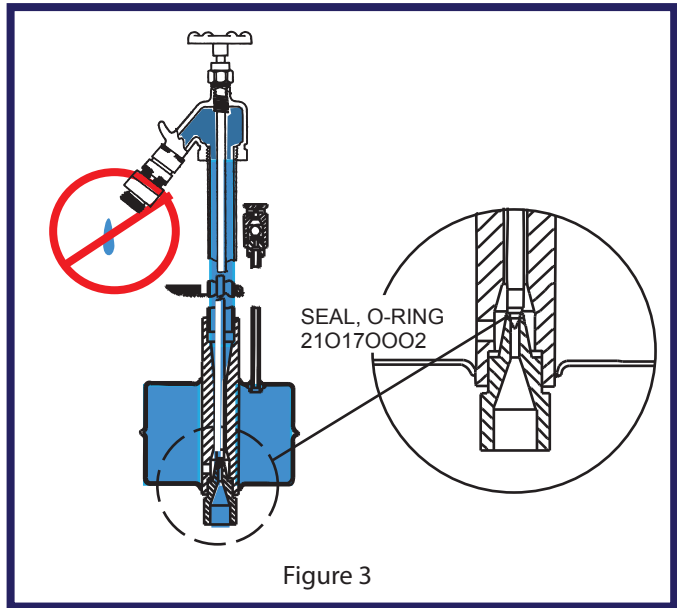

Figure 3
- If hydrant leaks from outlet, remove operating rod and replace o-ring on stopper tip. (Figure 3)